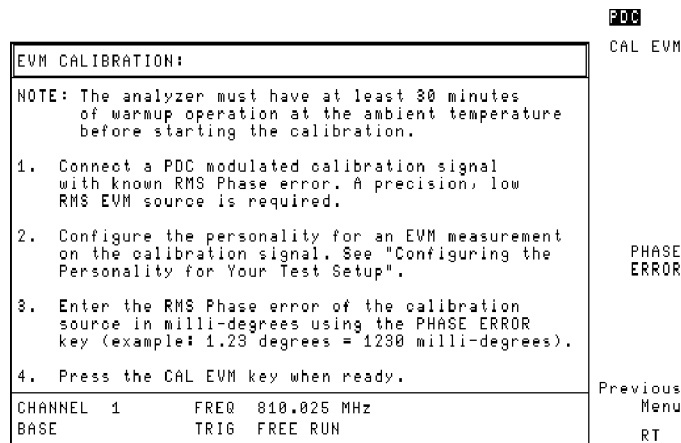

Figure 2-25. EVM Calibration Instructions
4. Press **Evm Cal** to access the EVM calibration menu. A screen containing instructions is also displayed. See Figure 2-25 for the EVM calibration instructions screen.